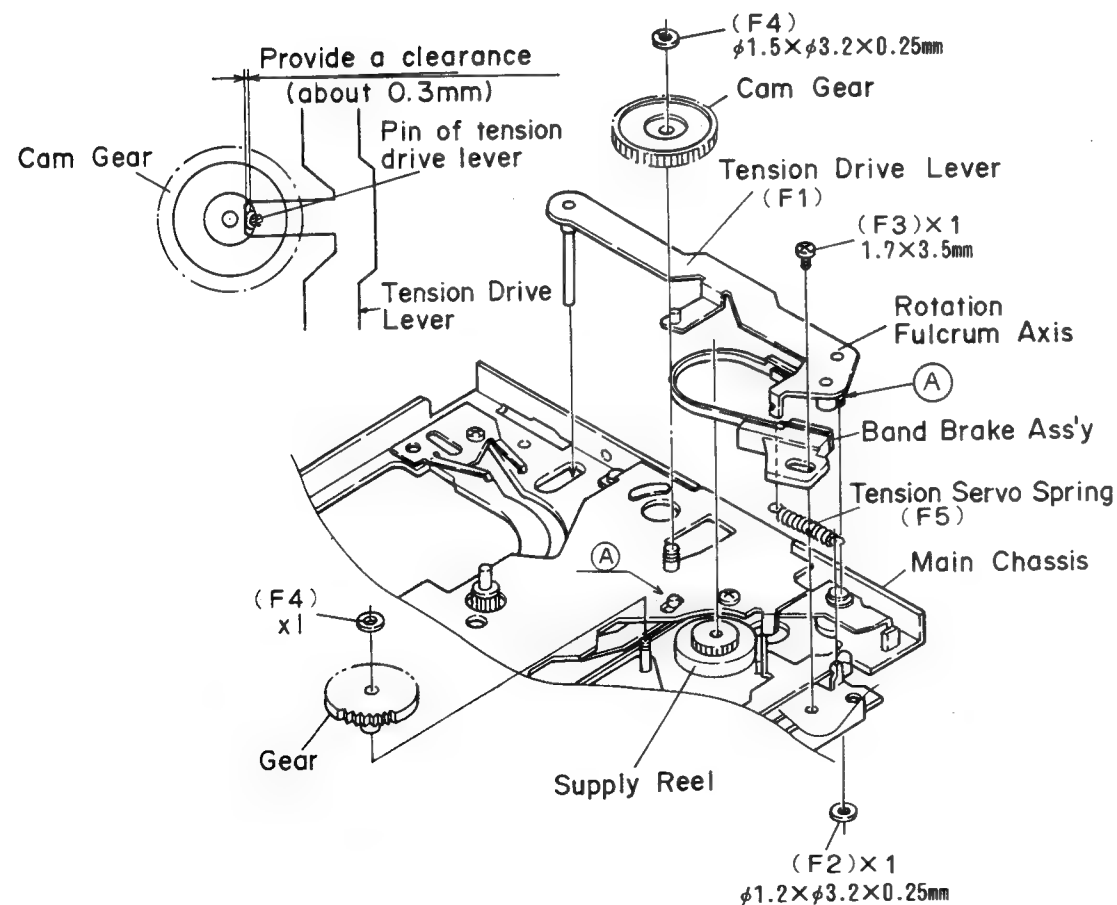

Figure 31-1
## REMOVING AND REINSTALLING THE BAND BRAKE (Fig. 31-1)
1. Assemble the tension drive lever and the band brake assembly. (Fig. 31-1, part A)